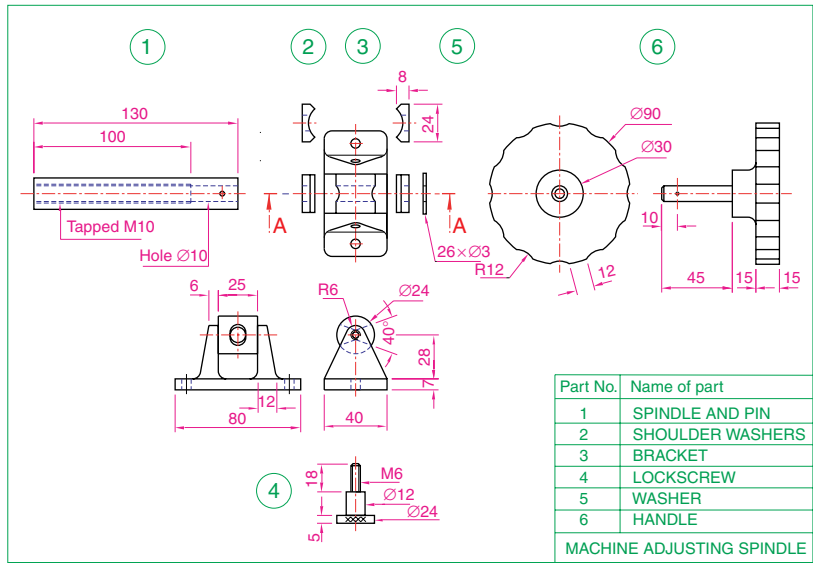

Fig. 11.18 Exercise 2
2. Construct a similar sheet set as in the answer to exercise 1 from the exploded orthographic drawing of a **Machine adjusting spindle** given in Fig. 11.18.